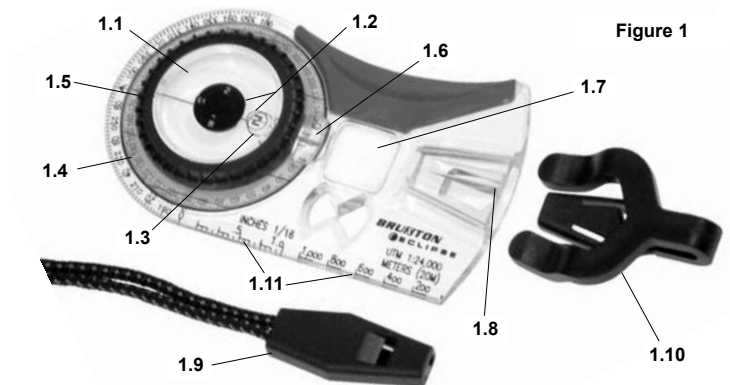

Figure 1
1.1 Vial (Fig 1)
1.2 Needle Disk + RED circled "N" (Fig 1)
1.3 Orienting Circle – BLUE (Fig 1)
1.4 Graduated Dial (Fig 1)
1.5 Rotating Azimuth Ring (Fig 1)
1.6 Index Lens (Fig 1)
1.7 Viewing Lens (Fig 1)
1.8 Double Prism Alignment System (Fig 1)
1.9 Clip + Animal Alert / Rescue Whistle (Fig 1)
1.10 Pocket / Map Clip (Fig 1)
1.11 Map Scales (Fig 1)